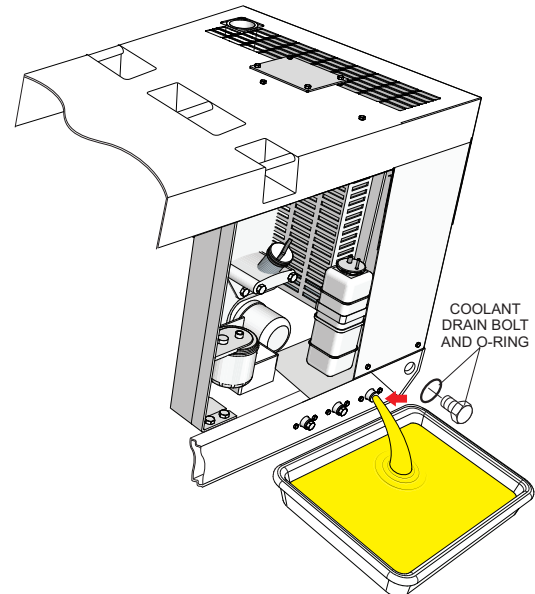

Figure 49. Draining The Engine Coolant
2. Remove the **coolant drain bolt and O-ring** (Figure 49), then allow the coolant to drain into a suitable container.
2. Remove the **coolant drain bolt** and **O-ring** (Figure 49), then allow the coolant to drain into a suitable container.